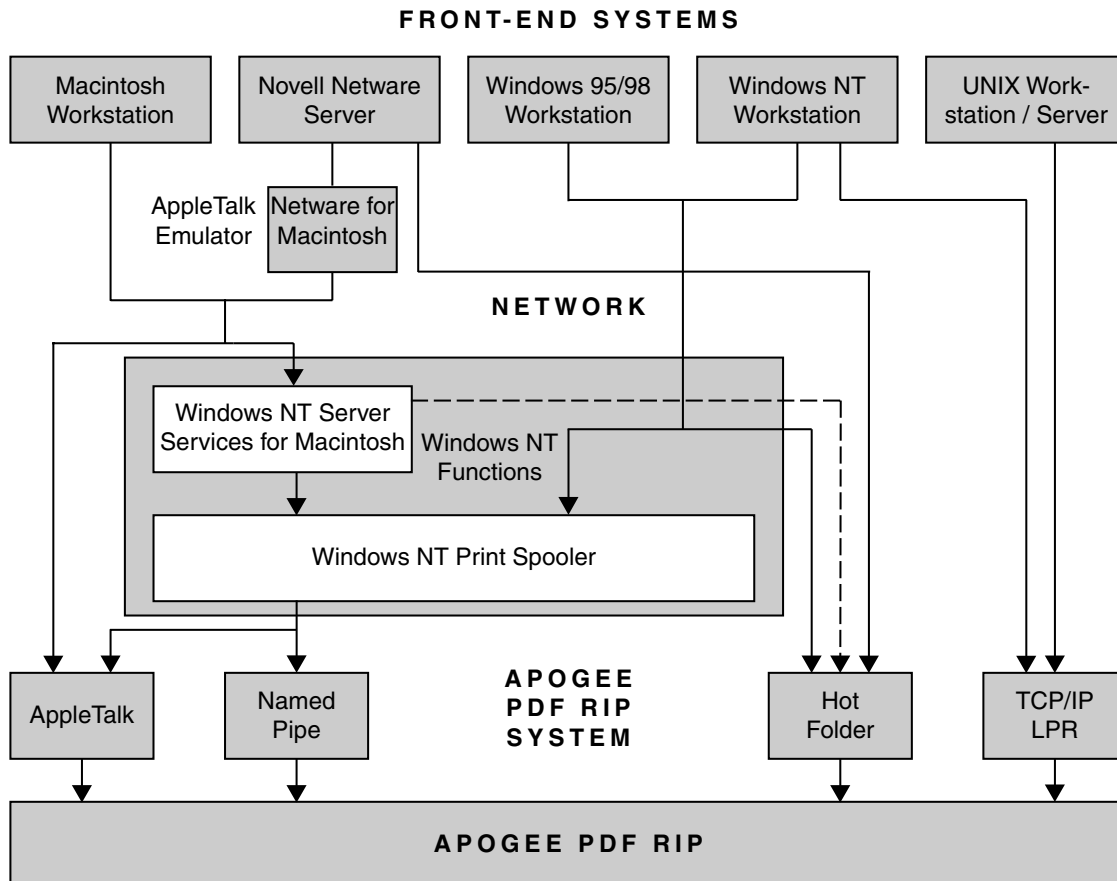

Figure 2: Apogee PDF RIP Job Input
- ❖ **Note:** The various ways in which front-end workstations can communicate with the Apogee PDF RIP are illustrated in Figure 2. This Figure illustrates the most common connections found in a typical configuration, but does not show all of the different configuration possibilities.